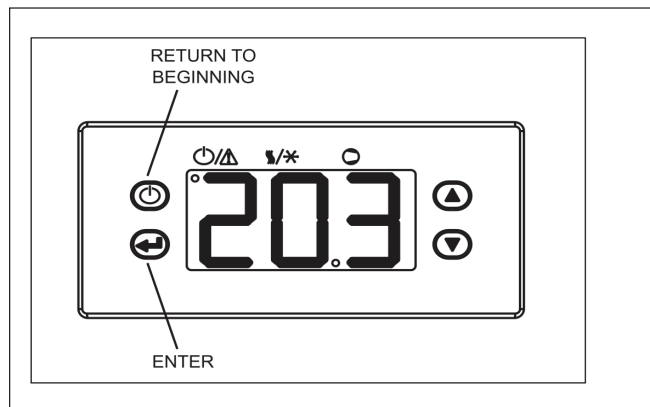

Figure 8. Pool Heater Controller.
Figure 8 identifies the control buttons.
The Pool Heater Temperature Control face contains an LCD screen and four (4) buttons (see Figure 8). The LCD screen will display the pool loop return temperature during normal operation. When the control is first powered up, it displays \overline{LLL} . It then displays the temperature at the pool loop sensor. After the temperature is displayed, the current settings (parameters) may be viewed. To scroll through the parameters, press the down arrow button to advance to the next parameter.